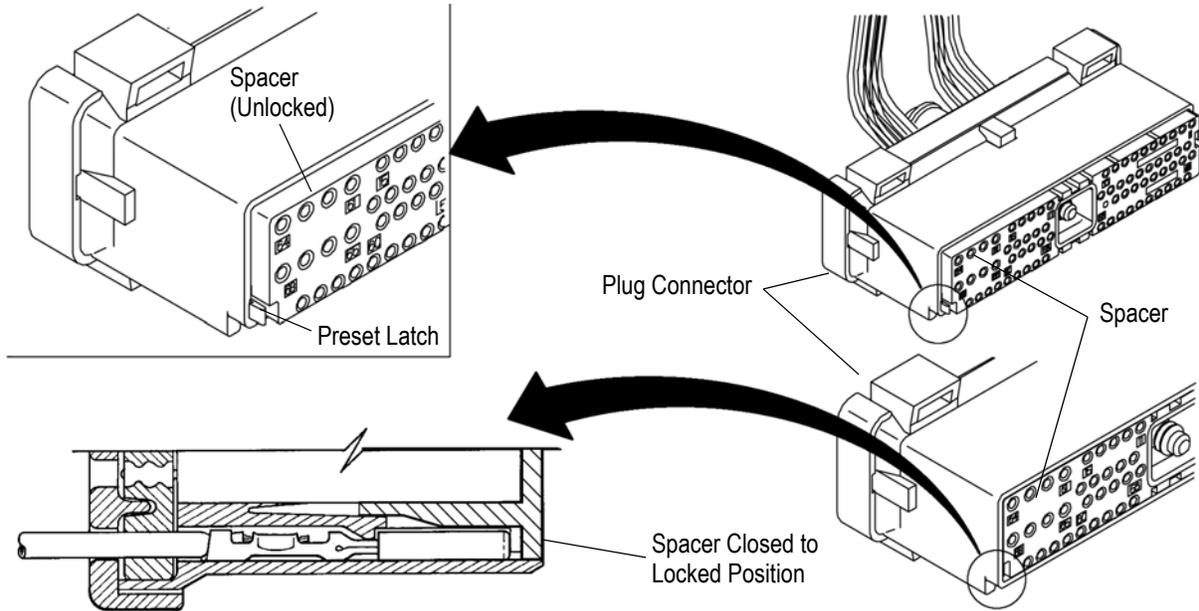

Figure 3
3. After all required contacts have been inserted, the spacer must be closed to its locked position. Release the locking latches by squeezing them inward and slide the spacer forward until it is flush with the housing plug assembly. See Figure 3.